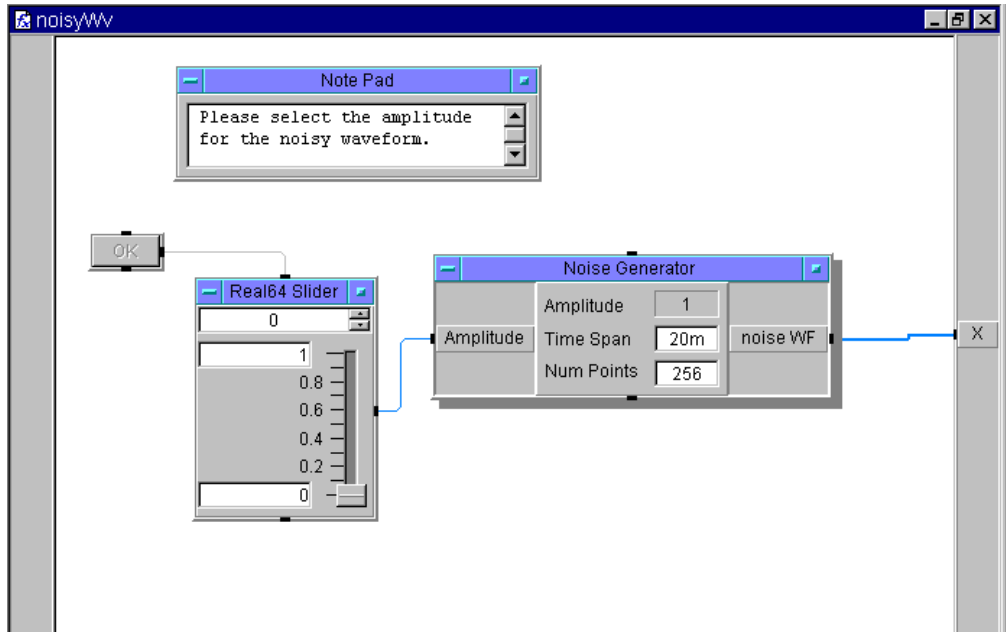

Figure 9-11. The noisyWv UserFunction (Detail)
1. Create the `UserFunction` called `noisyWv`, as shown in Figure 9-11 in the `Detail` view.